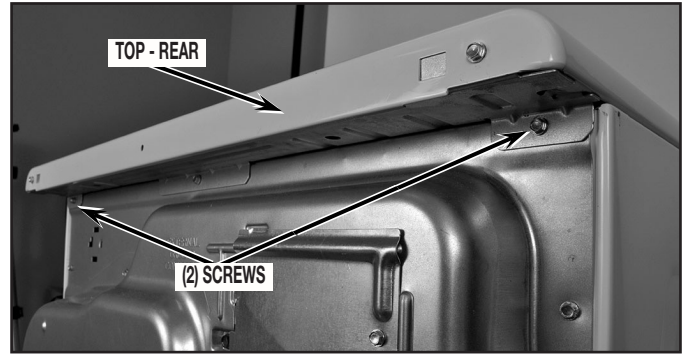

FIGURE 1
1. Remove dryer top by first removing the two (2) screws from the rear of the dryer. See Figure 1.